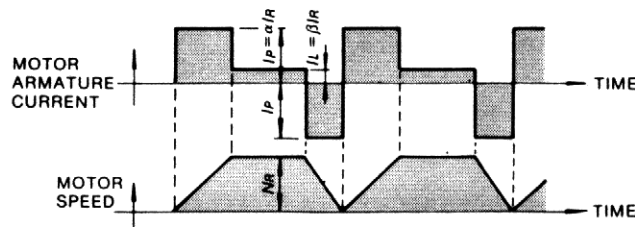

Fig. 4.5 Timing Chart of Motor Armature Current and Speed
- When the motor accelerates, runs at constant speed, and decelerates in a continuing cycle without being at standstill (Fig. 4.5).
The timing chart of the motor armature current and speed is as shown in Fig. 4.5. The allowable frequency of operation “n” can be calculated as follows.